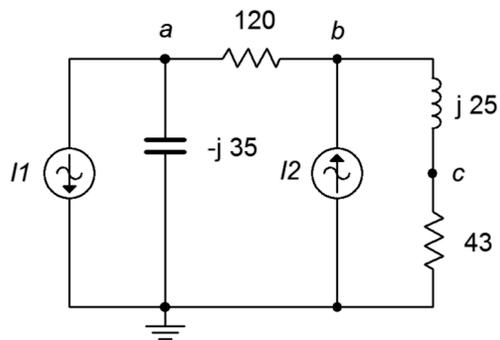

Figure 6.15
29. Given the circuit in Figure 6.15, use nodal analysis to determine  $v_c$ .  $I_1 = 3\angle 0^\circ$ ,  $I_2 = 900E-3\angle 0^\circ$
30. Use nodal analysis to find the current through the 120  $\Omega$  resistor in the circuit of Figure 6.15.